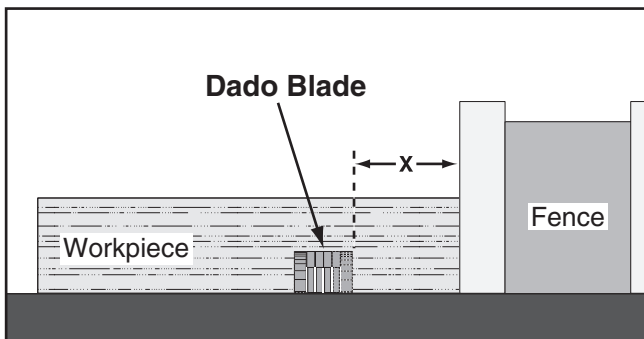

Figure 50. Example of a dado being cut with a dado blade.
2. Adjust the distance between the fence and the inside edge of the blade, as shown in **Figure 50**, to dado the length of a workpiece.